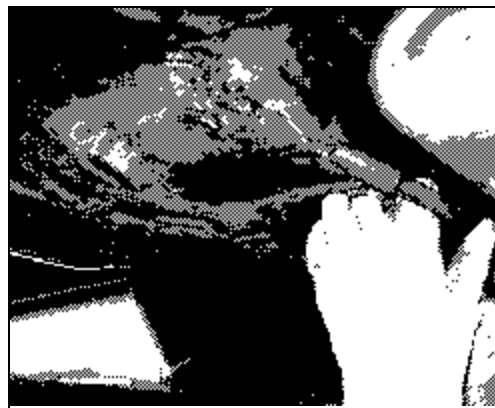

Fig. 2
5. Weld all the floor pan pieces that are spot weld at the factory and will be covered by the subframe connectors after installation. This will help the subframe connectors and keep the factory spot welds from breaking where they would be inaccessible after installation (see Figure 2).